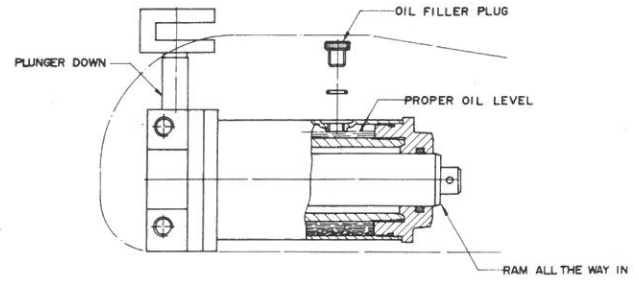

Fig. 2
*Adding Oil:* With saddle fully lowered & jack on level ground, remove Filler Plug (See Fig. 2). Oil should be filled to level of oil filler plug hole. If low, add oil as needed.